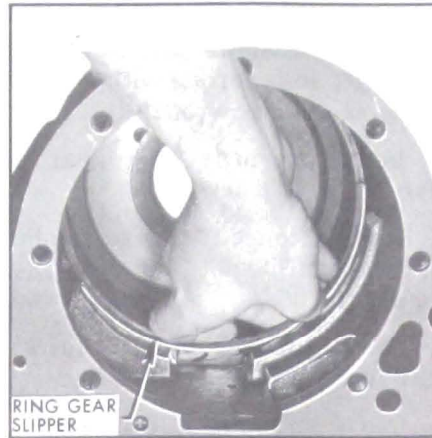

Figure 5-111—Installing Ring Gear Slipper
5. Install reverse ring gear slipper in case. See Figure 5-111.